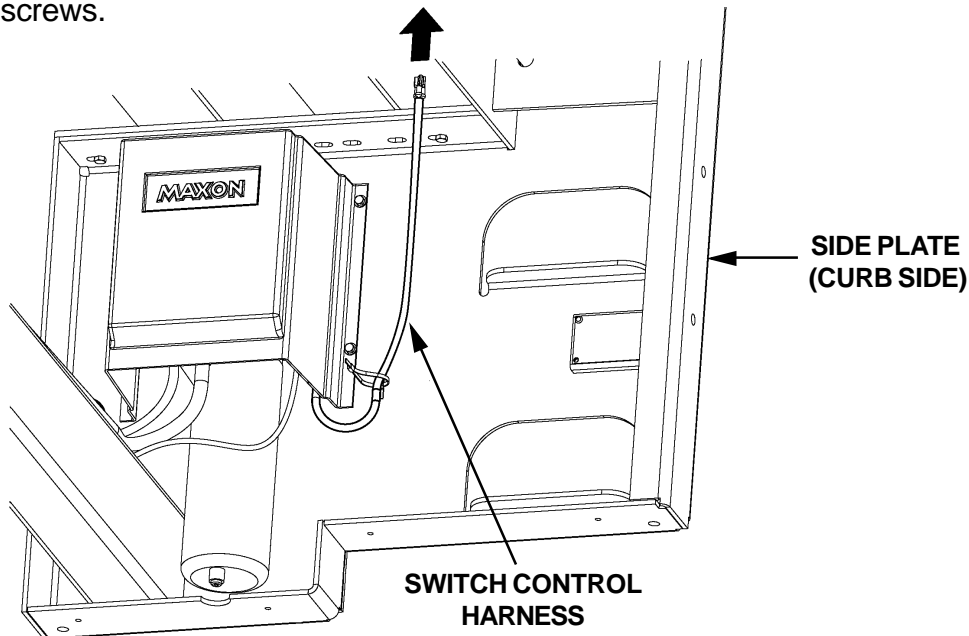
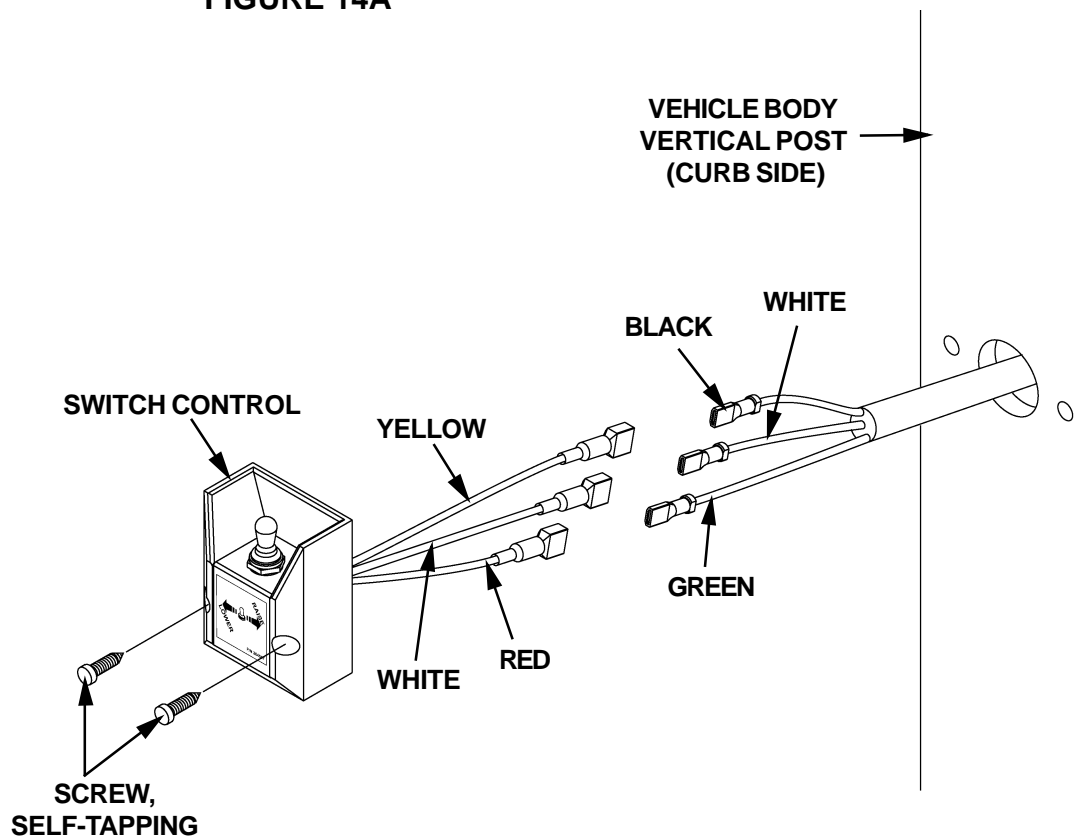

FIGURE 14A
FIGURE 14B
2. Route Switch Control wiring harness up through the inside of vertical post (**FIG. 14A**) and out the 3/4" hole from the previous step. Connect Switch Control wiring to the wiring harness as shown in (**FIG. 14B**). Push extended wiring back into the 3/4" hole in the vertical post until Switch Control touches the post. Attach Switch Control to vertical post with 2 self-tapping screws.